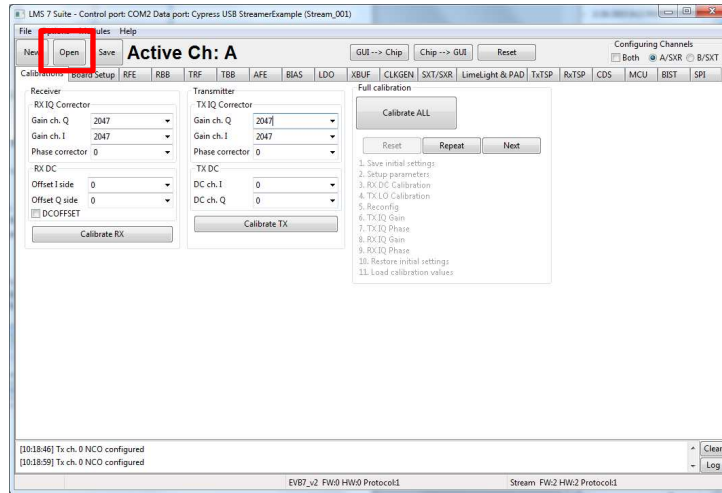

Figure 10 Select the pre-set file for transceiver
- a. Load the register pre-set file for the LMS7002M transceiver. This will set Tx PLL LO to 2140 MHz, RX LO to 1960MHz and configure the digital interface. To do that, press **Open** button in the GUI front panel. See *Figure 10*.
- b. The UNITE70002 has to be synchronized with analyser in order to correct frequency error. To do that, connect 10 MHz reference signal coming from analyser to X18 connector on the LMS7002 board. Select the **Bord Setup** tab in GUI and press **Synchronize**. See *Figure 10* The LD2 should light up, which indicates that board is synchronized.